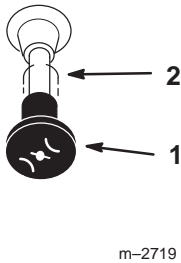

Figure 17
- After the engine starts, move the choke to off (Fig. 17). If the engine stalls or hesitates, move the choke back to on for a few seconds. Then move the throttle lever to desired setting. Repeat this as required.